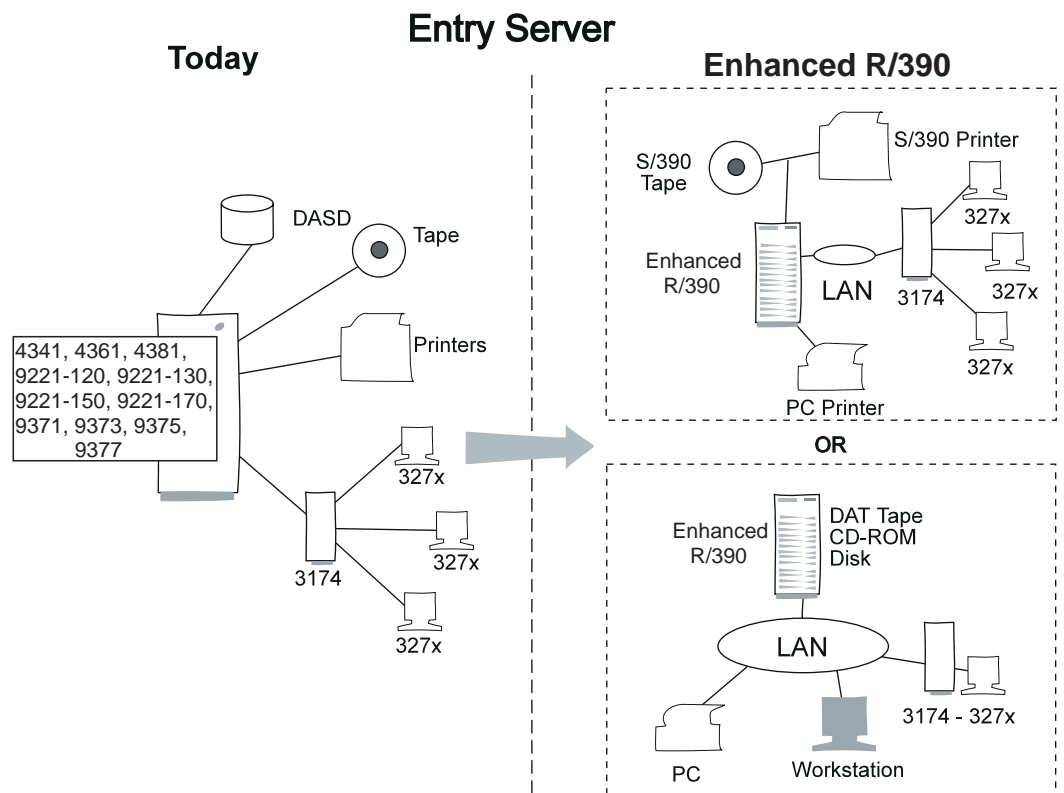

Figure 3. Enhanced R/390 as a Replacement
**Old Iron Replacement Market.** Figure 3 on page 3 shows how you can replace outdated S/370 and S/390 systems. Customers with general purpose processors can now upgrade to new technologies and gain substantial savings with the Enhanced R/390. In addition, for those customers participating in the LAN environment, the Enhanced R/390 addresses the customers' LAN needs by providing them with the opportunity to replace their existing system and to continue using their existing applications. In terms of porting S/370 applications to a new technology, the Enhanced R/390 facilitates easy upgrades in comparison to moving to an entirely new platform. The Enhanced R/390 allows the upgraded S/390 customer to also use the vast portfolio of UNIX applications and to port UNIX applications to OS/390 UNIX Services.